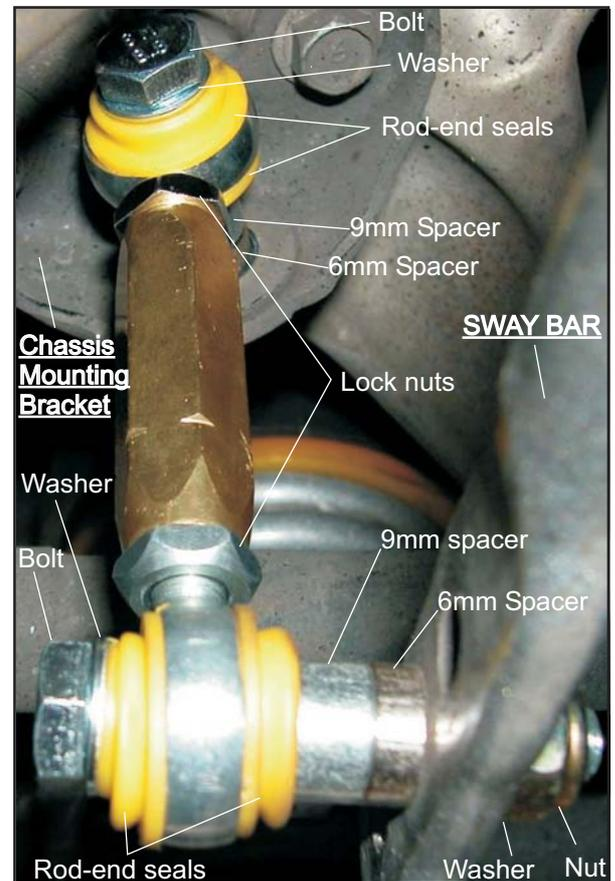

Fig1. KLC041.
3. Assemble link, placing dust seals and spacers as shown in Fig.1.